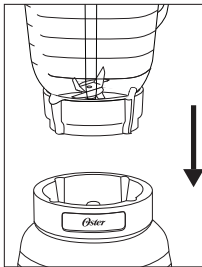

Figure 6
6. Place threaded jar bottom over blade and turn clockwise to tighten. (Figure 6)